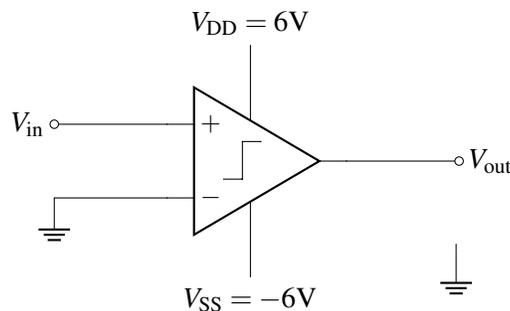
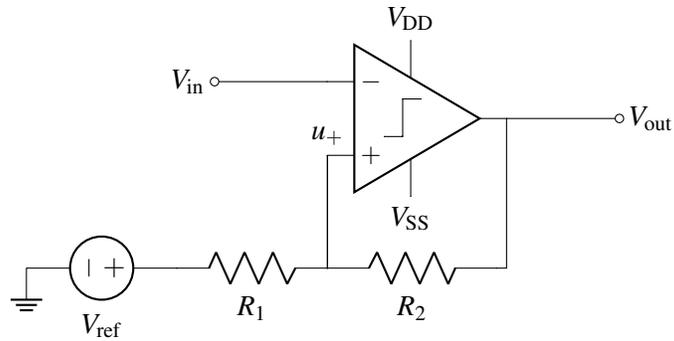

Figure 18: First attempt eye-pad control circuit.
Figure 19: Proposed eye-pad control circuit.
- (b) (4 points) We want to use a comparator to turn the heat ON and OFF, and you set up the circuit in Fig. 18. You process the V_T to make $V_{in} = (1 - \frac{T}{T_0})$ [Volts], where $T_0 = 30^\circ\text{C}$. The heat will turn on when $V_{out} = V_{DD}$. **For what range of temperatures, T , is $V_{out} = V_{DD}$? Give your answer in terms of $^\circ\text{C}$.** Clearly show all your work.
- (c) (6 points) Your TA, Moses, points out that just using the circuit in Figure 18 will cause your heat to turn ON and OFF due to very small fluctuations. Instead, he suggests analyzing the following circuit in Figure 19. **Find the voltage u_+ at the positive terminal of the comparator, as a function of V_{out} , R_1 , R_2 , and V_{ref} .** Clearly show all your work.